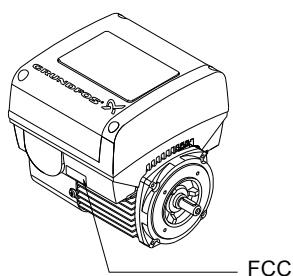

Fig. 20 FCC label
- If the CIM module is supplied with an FCC label, then place this on the terminal box. See fig. 20.